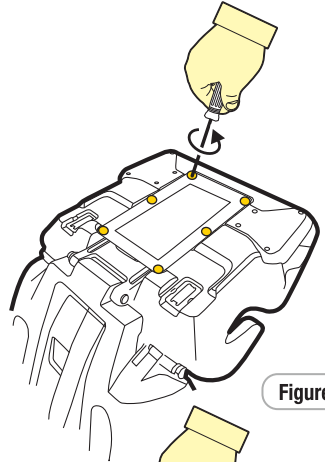

Figure 1
- Step 1:** From the underside of the restraint remove the inspection plate (6 x screws) (refer Figure 1).